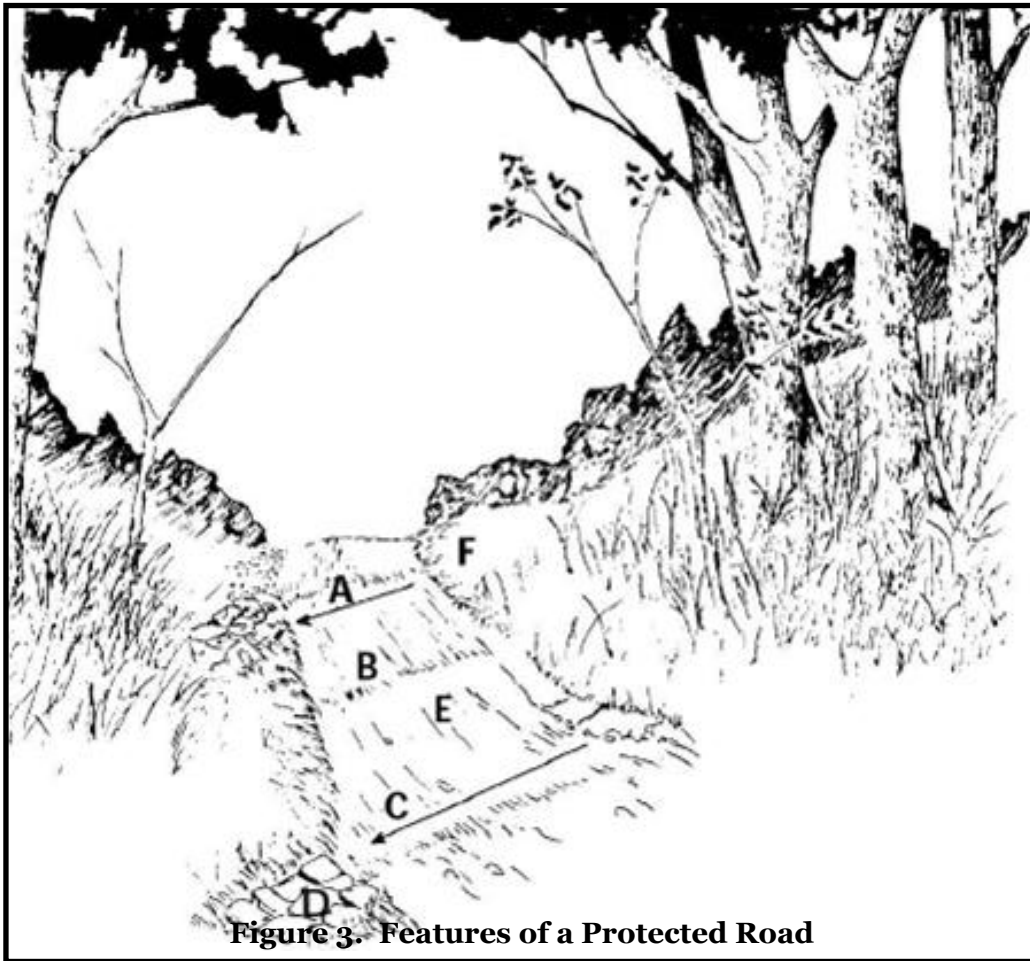

Figure 3. Features of a Protected Road
- **Forest roads should be designed to shed water**. Water control methods include crowning the road, using the natural slope, side ditches, culverts, water turnouts (also known as wing ditches), broad-based dips and water bars (*see Figure 3*).